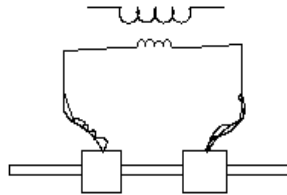

Fig. G1 Butt welding
- (i) **Butt Welding:** This method is used for welding of rods, wires or small pipes; the two ends are pressed together mechanically to form a butt joint as shown in Fig G1